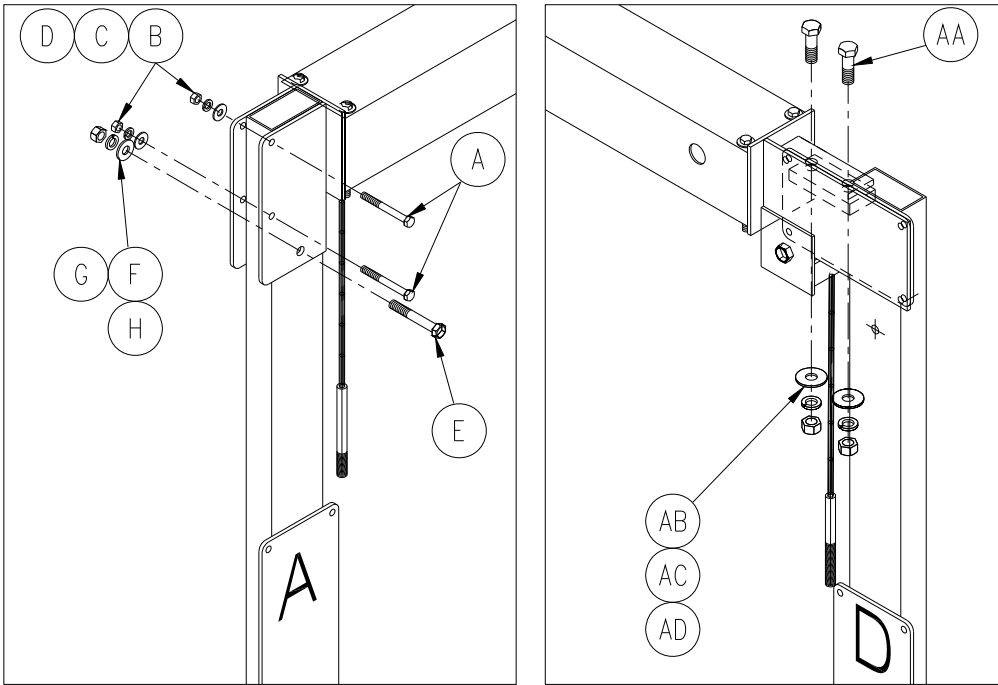

Figure 3-9
1. Refer to Figure 3-9. Install hydraulic cylinder assembly to vertical leg "A" and "D". Use fasteners detail A thru H and install fasteners detail AA, AB, AC & AD.